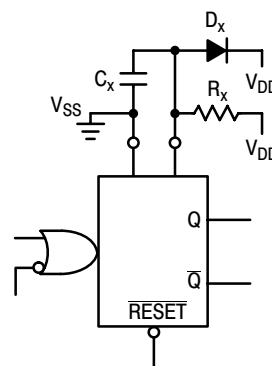

Figure 11. Use of a Diode to Limit Power Down Current Surge
7. If $C_X > 15 \mu\text{F}$, use discharge protection diode per Fig. 11.
When a more rapid decrease of V_{DD} to zero volts occurs, the MC14538B can sustain damage. To avoid this possibility use an external clamping diode, D_X , connected as shown in Fig. 11.